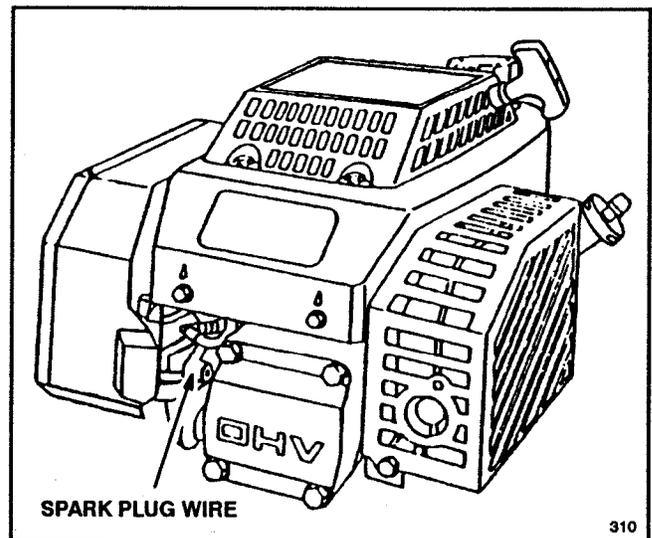

Figure 19
1. Stop engine and pull wire off spark plug (Fig. 19). Remove key from switch on electric start model.